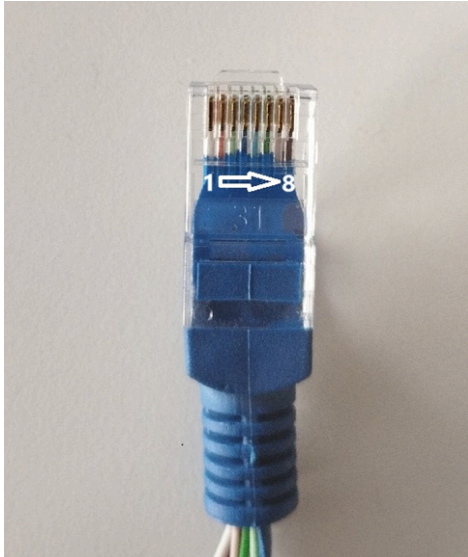

Figure 2: *Ethernet cable wire number ids.*
Step 8: Remove the insulation from the edge of the Ethernet wires. Place 13 female terminals (see Other Hardware, part #4) at the end of each wire and cover the exposed terminal with insulation (e.g., heat shrink tube, see Other Hardware, part #9). In the following steps, the identification of the Ethernet cable wires is shown in Fig.2: